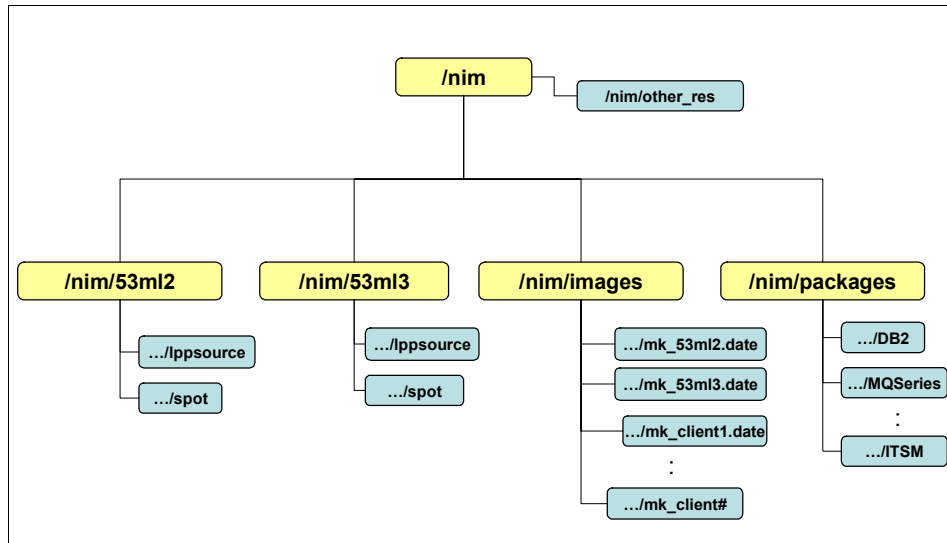

Figure 2-6 NIM directory structure based on PSSP
- ▶ The first structural suggestion, shown in Figure 2-6 on page 48, has separate file systems for each different AIX Maintenance Level or Technology Level which includes the related lpp_source and SPOT directories.